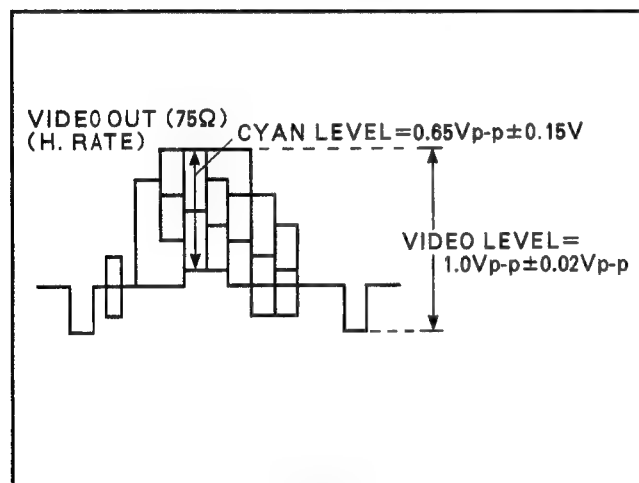

Figure E6
3. Adjust VR3305 so that the Y level becomes $1.0 \pm 0.02V_{p-p}$ as shown in Figure E6.